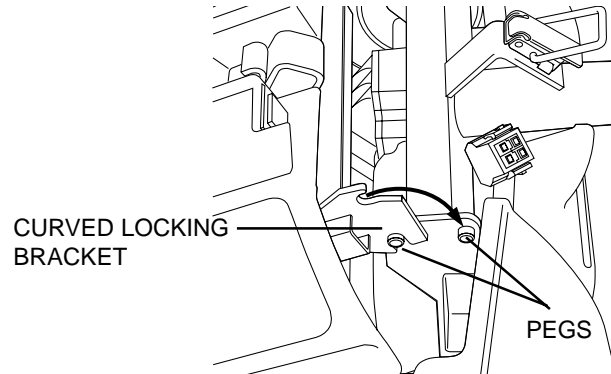

Figure 17. Frame Lockup
2. Lift the front section up until the lower pegs are no longer in the curved locking brackets. See figure 17.
2. Align the lower curved locking brackets of the front section with the corresponding pegs on the front of the rear section. See figure 17.